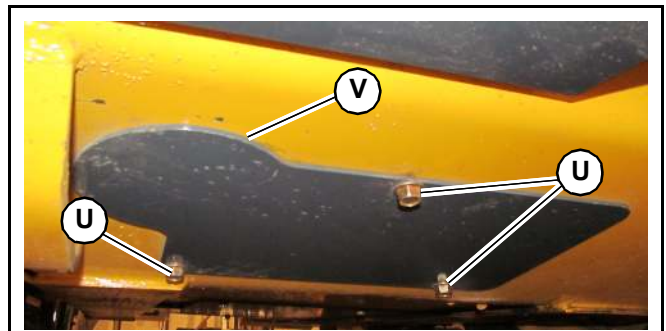

Fig. 270 – Bottom Access Panel
19. Remove three cap screws (U, Fig. 270) and access panel (V) from the bottom of the machine.